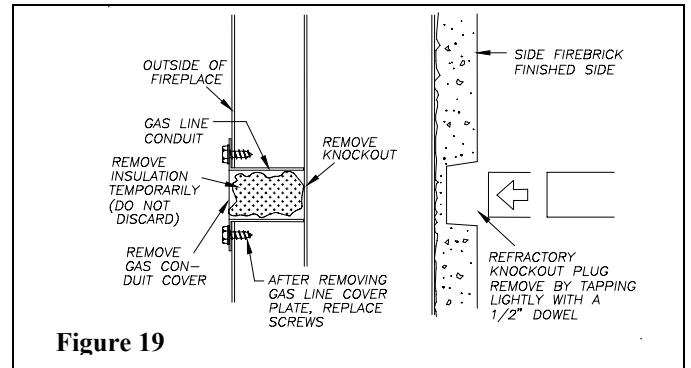

Figure 19
**STEP 1:** To install, remove the knockout indentation on the refractory, (or firebrick), wall located approximately 2 inches above the refractory hearth floor. The knockout indentation must be firmly tapped with any solid object until it is released. Remove fragmented portions of refractory (see figure 19).